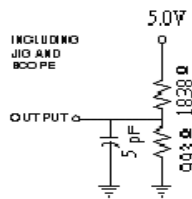

FIGURE 1B
5.) Transition is measured ±500mV from steady state with CL = 5pF as shown in Figure 1B. The parameter is guaranteed but not 100% tested.
10. Transition is measured  $\pm 500\text{mV}$  from steady state with  $C_L = 5\text{pF}$  as shown in Figure 1B. The parameter is guaranteed but not 100% tested.